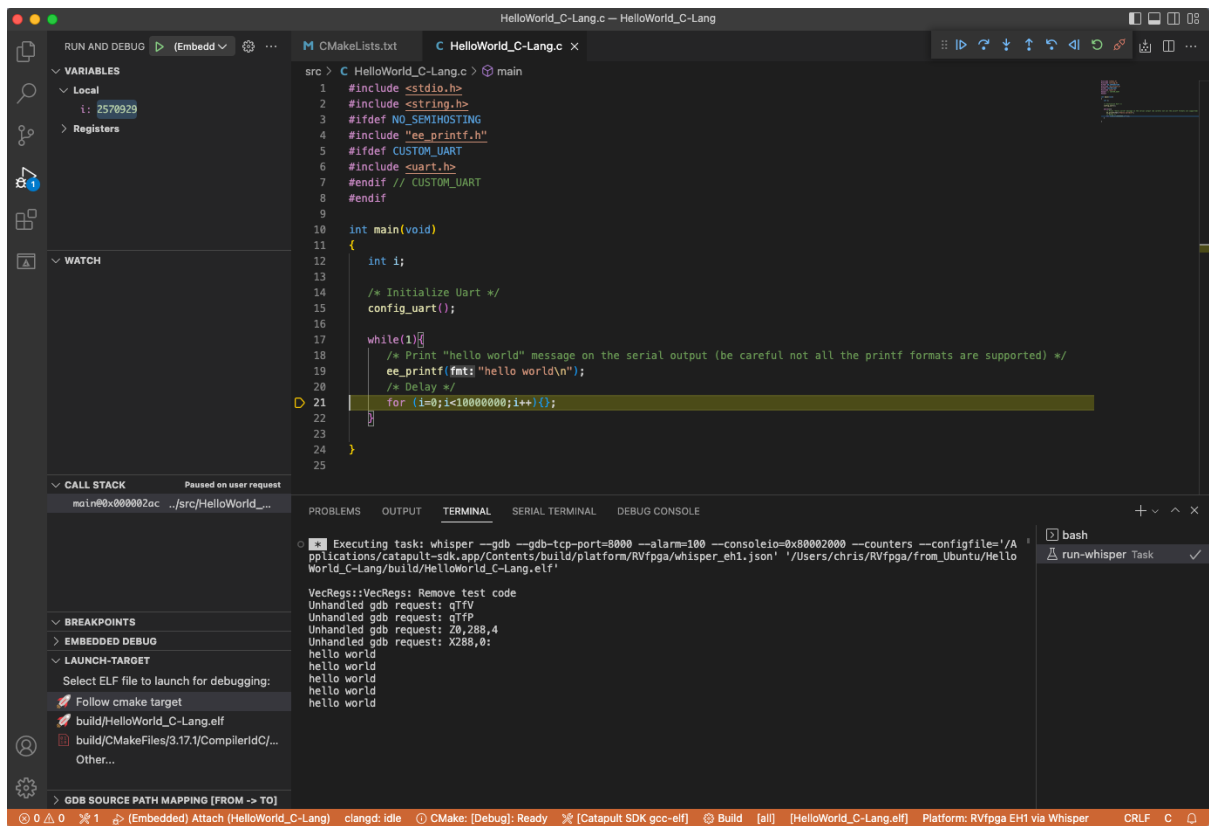

Figure 77. Execution of the HelloWorld_C-Lang example in Whisper
6. If a program uses the *ee_printf* function in Whisper, such as the *HelloWorld_C-Lang* example (Section 5.F), you should not open the Catapult Studio serial monitor, as messages are shown in the Terminal console instead (see Figure 77).